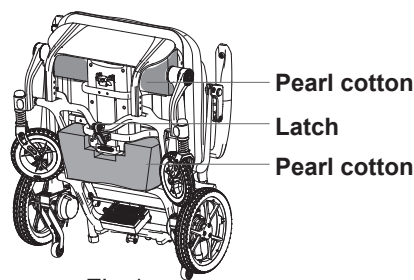
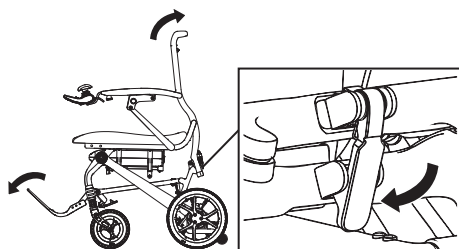
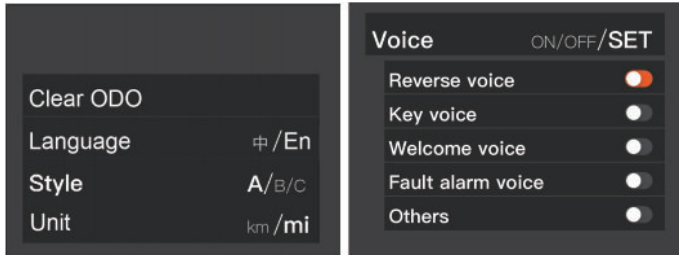

Fig.1
Fig.2
Figure 1 (Project interface 1) Figure 2 (Project interface 2)
8.3.1 Open the box, take out the wheelchair, and remove the protective cushion. First flip the footrest forward, and then take out the pearl cotton protective pad in the battery compartment. When unfolding the wheelchair, please first find the latch under the footrest (**Fig.1**), slightly push the latch upward to unlock it, then press the backrest with one hand and the seat with the other hand, and pull the wheelchair forward and backward, When you hear a click, it indicates that the latch has been stuck into the locking pin (**Fig.2**), and the wheelchair has been unfolded.
The controller is turned on and the instrument display is normal. Press and hold the  and  buttons for about 3 seconds. After the controller emits 2 beeps, release the combination button to enter the engineering interface, as shown in Figure 1 (engineering interface 1) and Figure 2 (engineering interface 2):